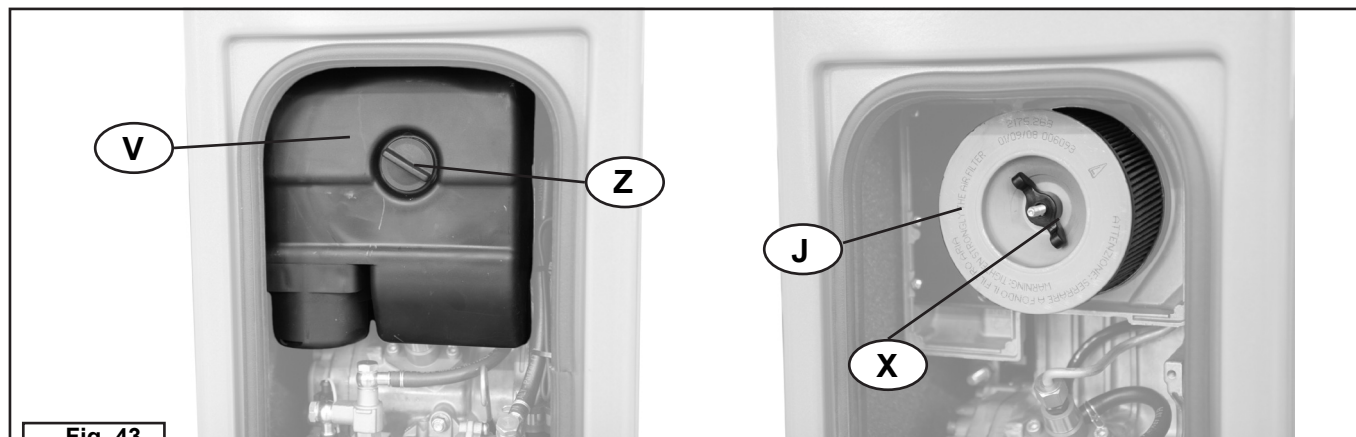

Fig. 43
20	Remove the air filter cover (V), by turning the knob anticlockwise (Z)(fig. 43).
21	Loosen and remove the wing nut (X) in order to remove the filter element (J) (fig. 43).